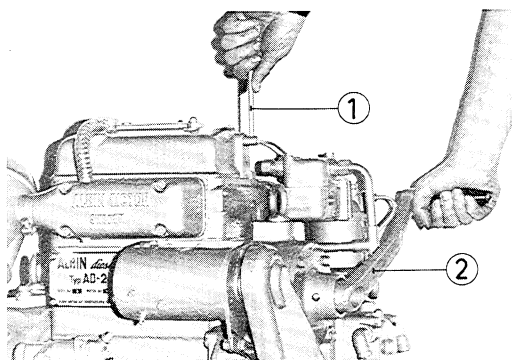

Fig. 7 1 Decompression lever
- 2 Set the decompression lever fig. 7. No. 1, in vertical position.
- 3 Insert the starting crank, fig. 7. No. 2.